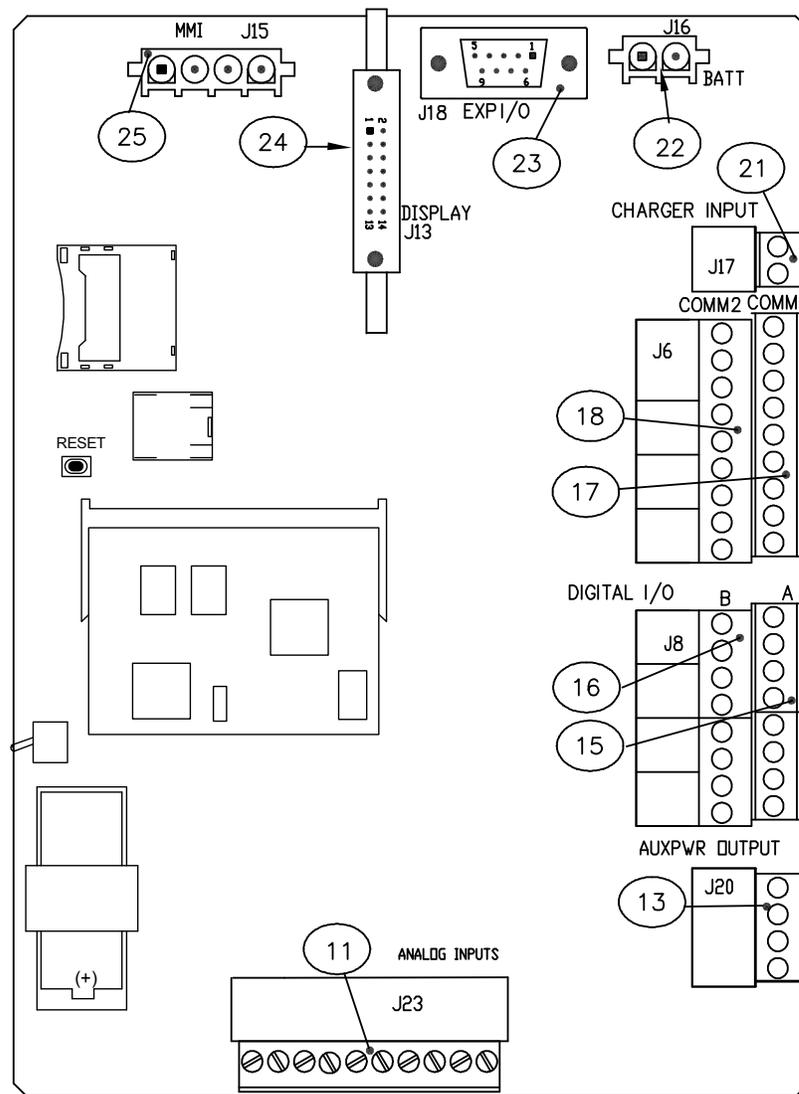

Figure 72: XRC^{G4} board connections
- If used, disconnect the external charging source, J17 (Figure 72: *XRC^{G4} board connections*, Item 21).
- J13 LCD Connector (Figure 72: *XRC^{G4} board connections*, Item 24)